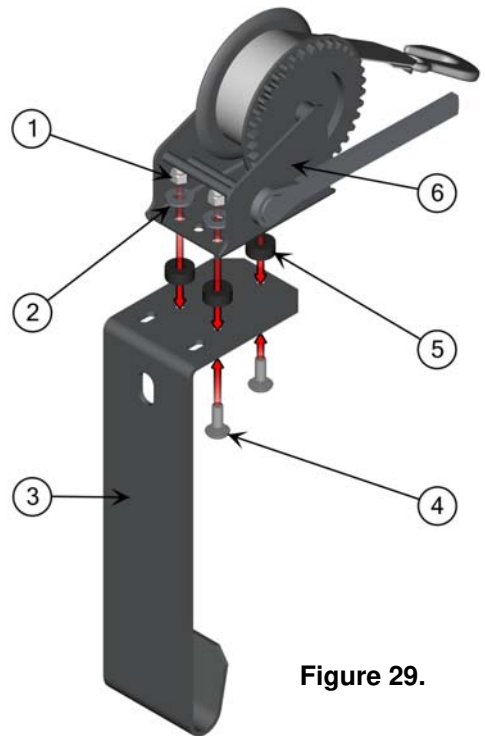

Figure 29.
First, assemble the winch kit (Figure 29):
- 1. Once the winch is assembled, place it on the EZ BoatPort by inserting the winch attachment bracket (Figure 29 Item 3) of the winch assembly into the middle bottom pocket of the EZ BoatPort and rotate it toward the port.
- 2. Secure the winch kit by placing two (2) washers (Item 2) over the slotted holes and inserting two (2) 1" bolts (Item 1) into the corresponding t-nut locations on the EZ BoatPort.